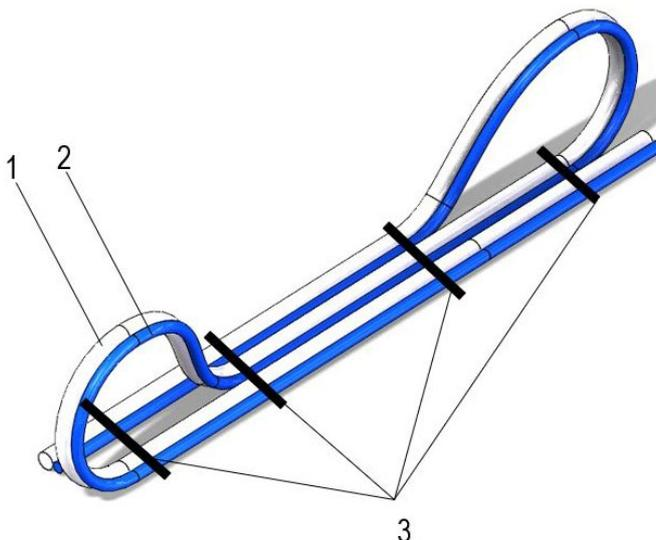

Fig. 132: Laid cables with cable ties
→ Lay the equipotential bonding cable (1, if present) and the HF cable (2) in parallel. Lay a maximum of two loops and fix the cables with cable ties (3) at a suitable distance (see Fig. 132 and Fig. 133).
The depicted quantity of two loops must not be exceeded (see Fig. 132 and Fig. 133).